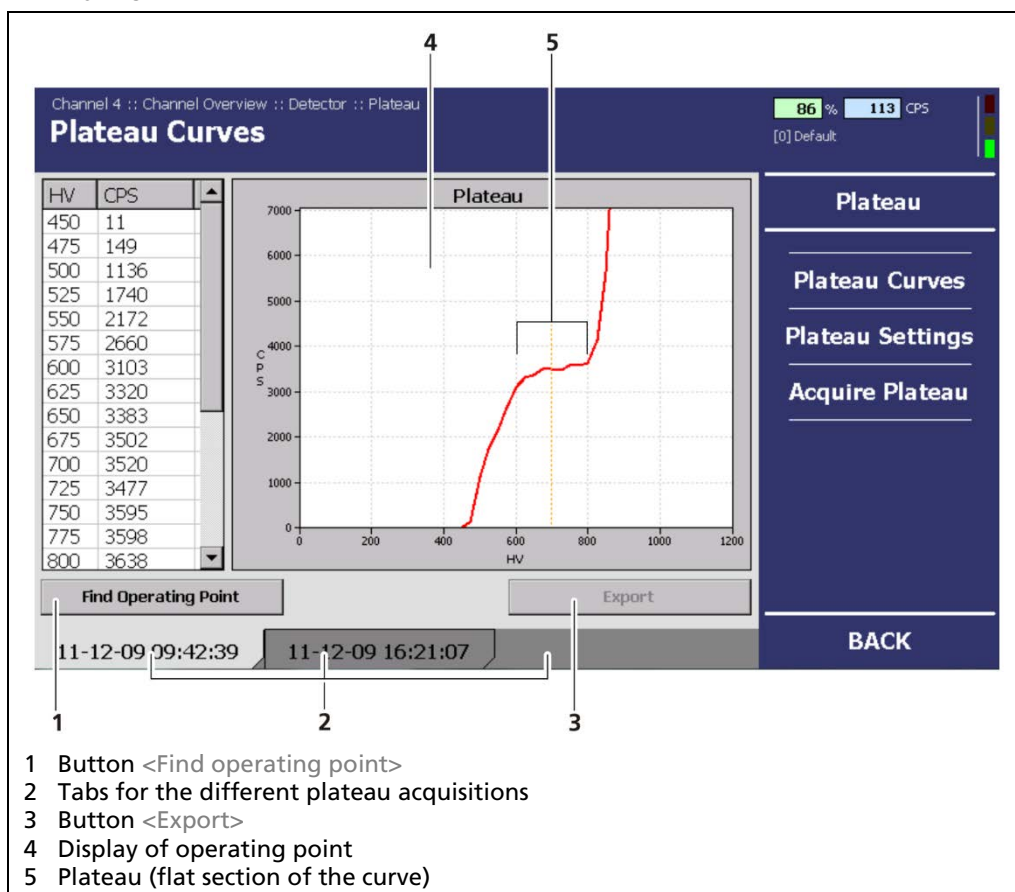

Fig. 15 "Plateau (Plateau Curves)" menu
- The "Plateau Curves" submenu opens (Fig. 15).
1. Click on the button **<Find operating point>** (Fig. 15, Pos.1) to create a new operating point.
Click on the button **<Export>** (Fig. 15, Pos.3) to export the data table of the plateau acquisition. The table containing the voltages (HV) and count rates (CPS) is stored in the main directory of the USB flash drive in the form of a txt. file.